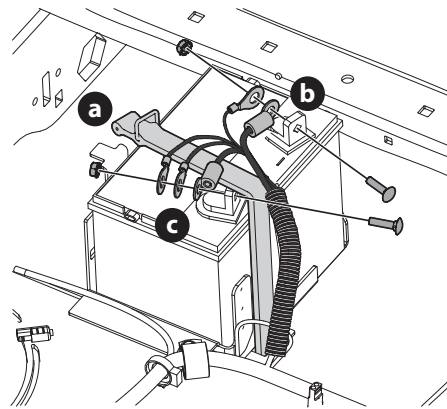

Figure 33
2. Remove the bolt and nut securing the negative cable grouping (b) to the negative battery post (marked NEG (-)). Move the cable grouping away from the negative battery post (Figure 33).
3. Remove the bolt and nut securing the positive cable grouping (c) to the positive battery post (marked POS (+)) (Figure 33).
4. Unhook the strap (a) holding the battery in place (Figure 33).
NOTE: Wiring harness should lay on top of battery hold down strap, otherwise damage to the wiring harness may result (Figure 33).